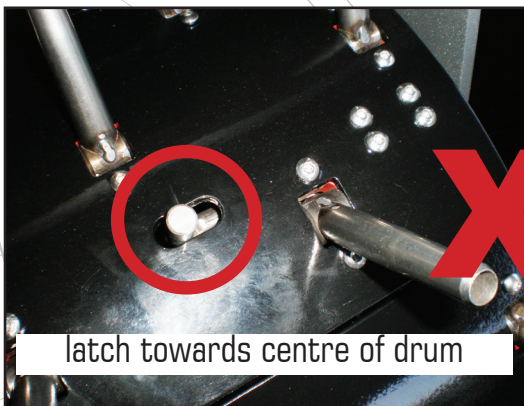

figure 1: unsecured latch
- Ensure all latches are in the closed position as shown in figures 1 & 2.
- Remove hatch by sliding the 2 latch handles, figure 1 & 2, towards the centre of the drum.
- When empty, refit the hatch, ensuring latch bolts are located correctly into the hubs, figures 1 & 2.